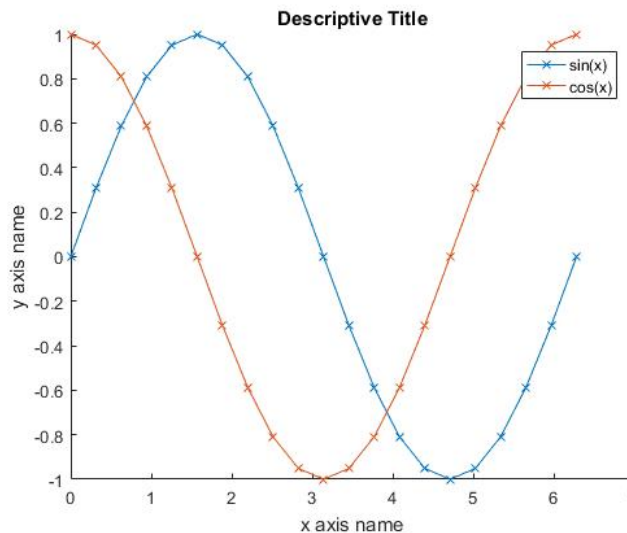

Figure 6. Sample Plot
2. The plots for sections B.1.1.2 ("real distance vs measured distance"), B.1.1.3.6 ("real distance vs measured distance"), and B.2.1 ("distance to the wall vs. time", one for each  $k_p$ ). All plots must include title, axis names, units, sufficient tick marks and legend (if plotting more than one graph). Also, each data point should clearly be marked with a symbol. Plots of a variable vs time should always place time on the x-axis. See sample plot in Figure 6.